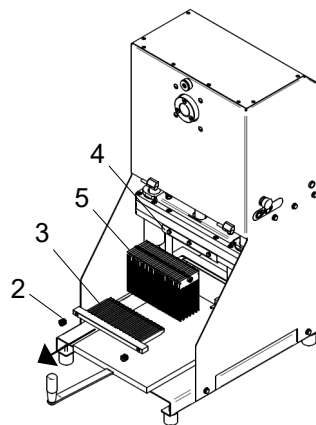

Fig. 7.2.2
7.3.2 - Removing the blade pack (Fig. 7.2.2)
7.3.2 Removing the blade pack (Fig. 7.2.2)